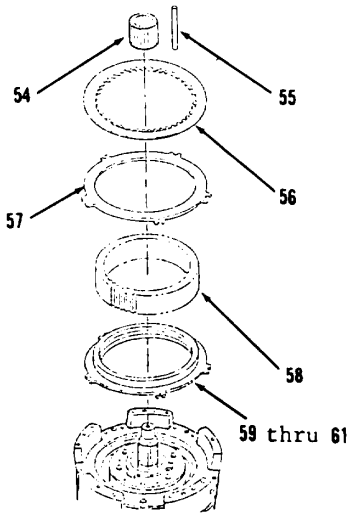
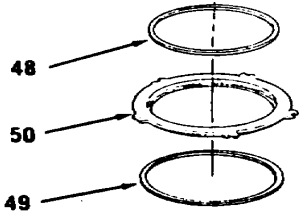

Figure 14-54.
Figure 14-53.
- 26. Install items 61 thru 59 as an assembly (Figure 14-54).
- 27. Install gear (58), plate (57), two discs (56), five dowels (55) and gear (54).
- 28. Install rings (49 and 48) in piston (50, Figure 14-53).